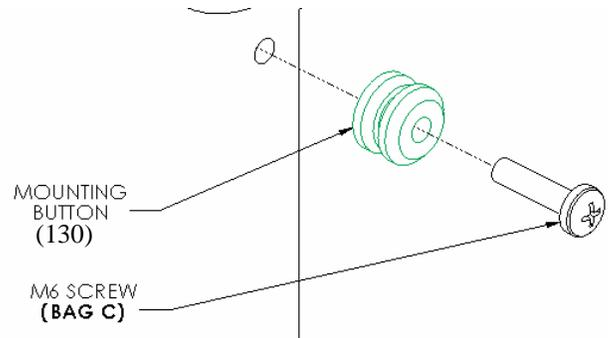
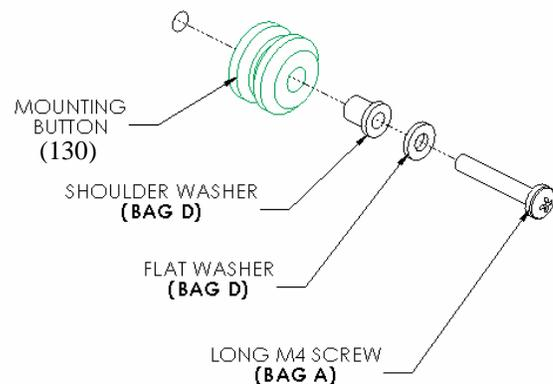
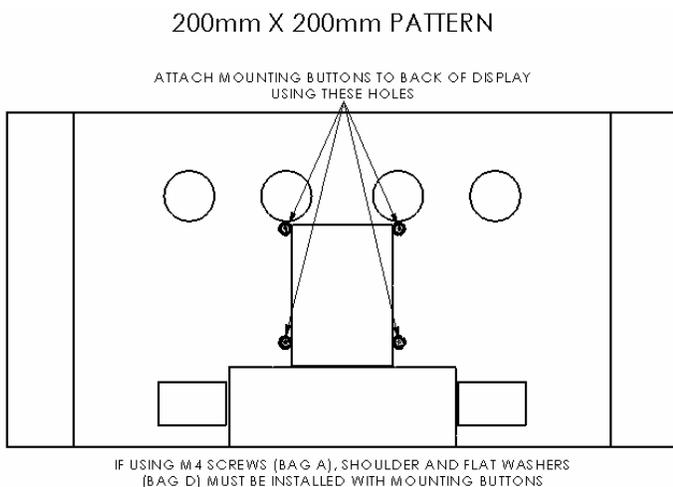

Figure 11. Attach Mounting Buttons to Display Using M6 Screws
Figure 12. Attach Mounting Buttons to Display Using Shoulder Washers, Flat Washers , and M4 Screws
Figure 10. Display with 200mm x 200mm Hole Pattern
1. Select the appropriate method, listed below, to attach the four mounting buttons (see Figure 10) to the back of your display:
- As shown in Figure 10 and Figure 11, use four M6 screws (Bag C) to attach the four mounting buttons (130) to your display.
- As shown in Figure 10 and Figure 12, use four shoulder washers (Bag D), four flat washers (Bag D), and four M4 screws (Bag A) to attach the four mounting buttons (130) to your display.